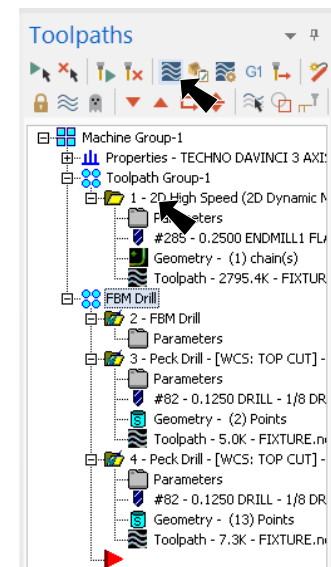

Fig. 64
Step 2. In Toolpaths Manager click **FBM Drill** to select toolpath group, **Fig. 64**.
Step 3. Click **Backplot**  in Toolpaths Manager, **Fig. 64**.